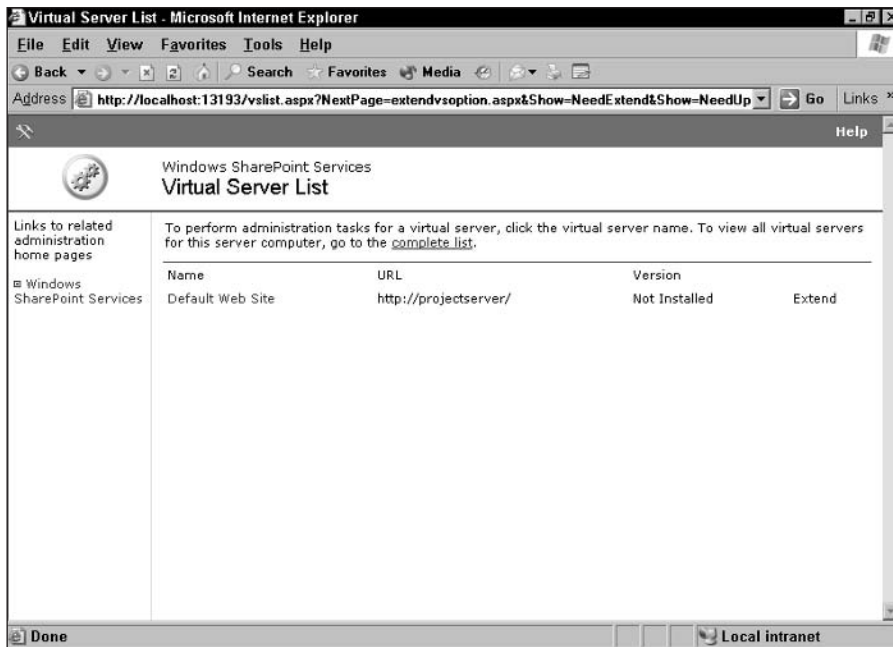

Figure 18-17: On this page, select the virtual server that you want to extend.
1. On the WSS Central Administration page, in the Virtual Server Configuration section, click the Extend or upgrade virtual server link. The Virtual Server List page appears (see Figure 18-17).